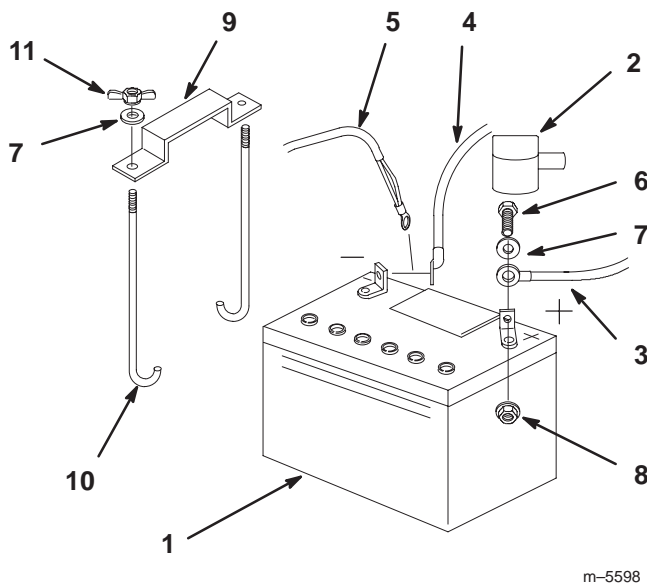

Figure 58
1. Position battery in tray with terminal posts toward the engine (Fig. 58).
4. Secure cables with 2 bolts (1/4 x 3/4 inch), 2 washers (1/4 inch), and 2 locknuts (1/4 inch) (Fig. 58).
6. Secure battery with J-bolts, hold down clamp and 2 washers (1/4 inch), and 2 wing nuts (1/4 inch) (Fig. 58).
3. First disconnect the negative battery cable and ground wire from the negative (–) battery terminal (Fig. 58).
4. Slide the red terminal boot off the positive (red) battery terminal. Then remove positive (red) battery cable (Fig. 58).
5. Remove both wing nuts (1/4 inch) securing the battery clamp (Fig. 58).